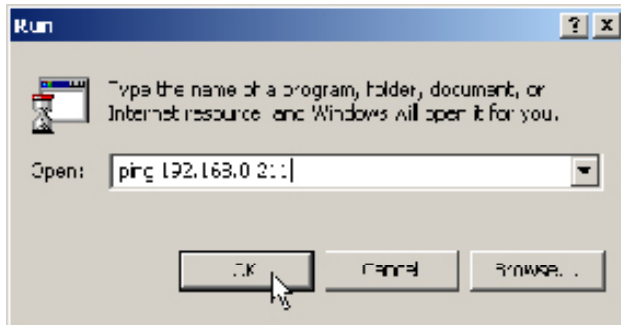

Figure 2-21
9. Type “ping”, a space, and the IP address that was programmed into the DigiPort. **Figure 2-21**